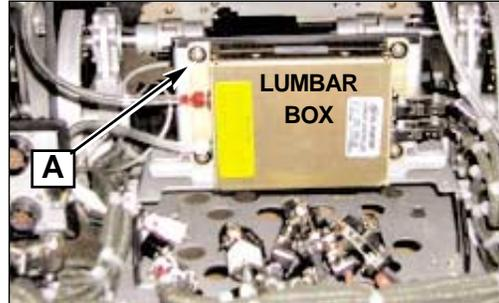

FIG. 318:
- (1) Disconnect rubber tubes and cables.
- (2) Remove four screws (A); remove lumbar box (see fig. 318, 318A).